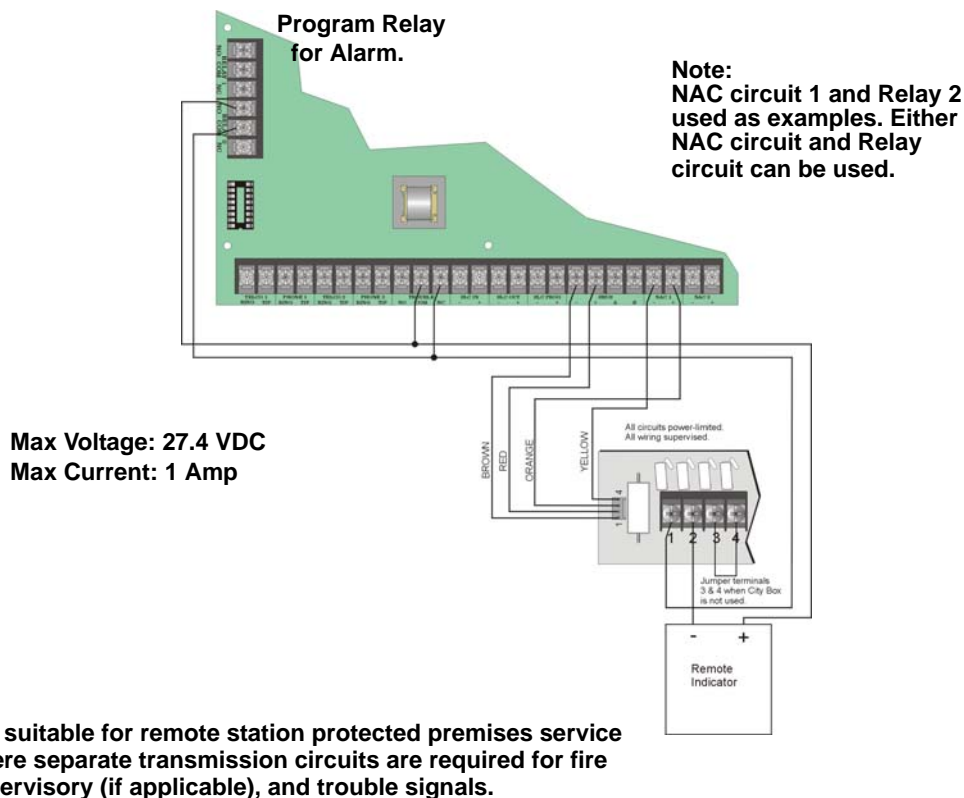

Figure 4-35 Polarity Reversal Connection Using the 5220 Module
2. Wire the 5220 to the control panel using the four-wire pigtail provided as shown in Figure 4-35. This diagram also shows how to connect the 5220 to the remote indicator. Do not install an EOL resistor in the terminals of the NAC circuit used for this application.